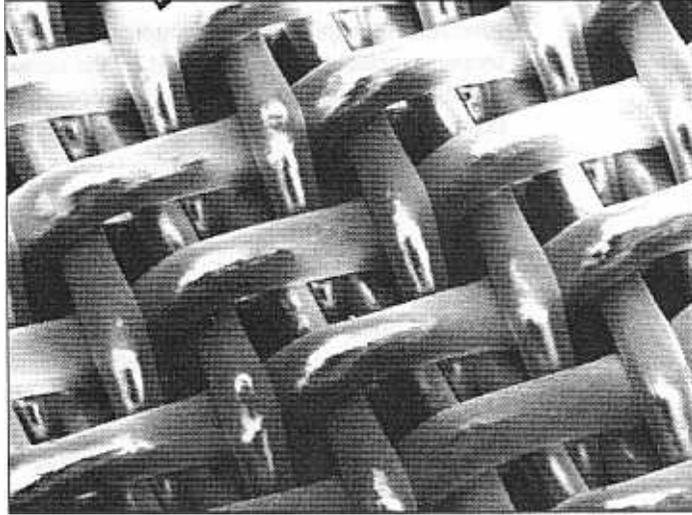

Figure 3.5 Bright/Dark Areas Due to Charging
- Very bright or dark areas (see Figure 3.5)